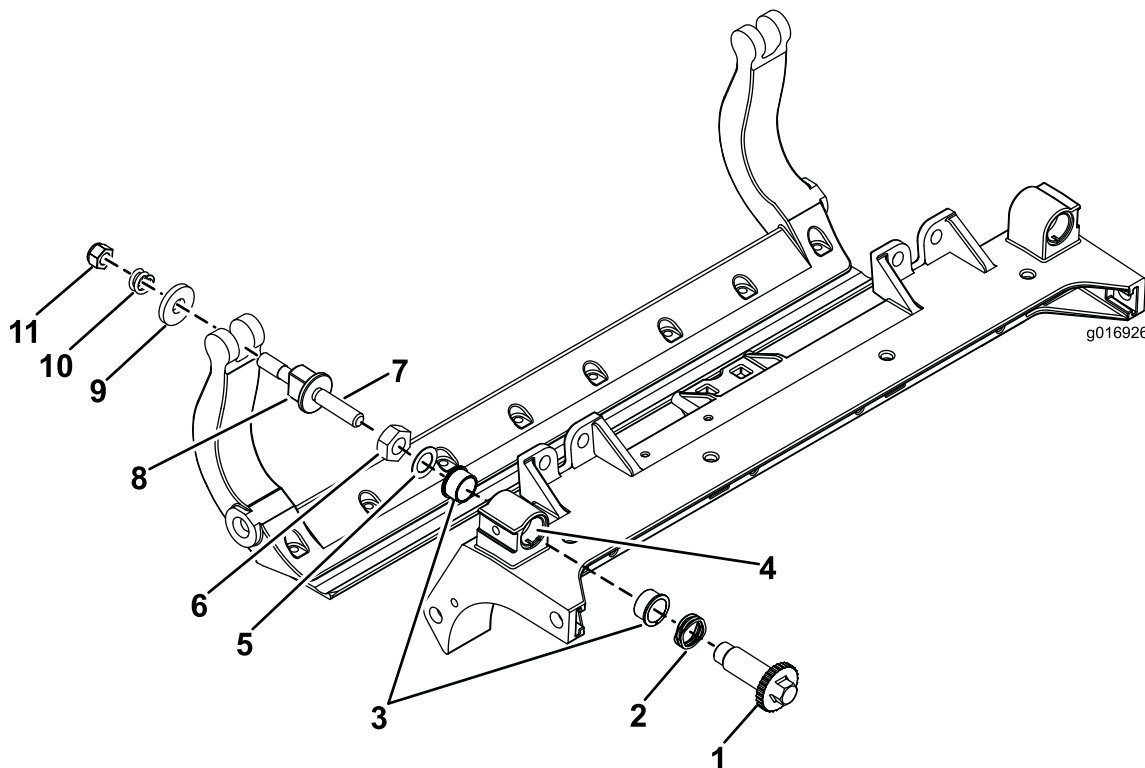

Figure 34
1. Remove all parts (refer to *Installation Instructions* for HD DPA Kit Model No. 120–7230 and to Figure 34).
2. Apply Never Seize to the inside of the bushing area on cutting unit center frame (Figure 34).
3. Align the keys on flange bushings to the slots in the frame and install the bushings (Figure 34).
4. Install a wave washer onto the adjuster shaft and slide the adjuster shaft into the flange bushings in the cutting unit frame (Figure 34).
5. Secure the adjuster shaft with a flat washer and lock nut (Figure 34). Torque the lock nut to 20 to 27 N-m (15 to 20 ft-lb).
12. Place a steel washer outside each of the nylon washers (Figure 34).
13. Tighten the nut on each bedbar adjuster assembly until the compression spring is fully compressed, then loosen the nut 1/2 turn (Figure 34).